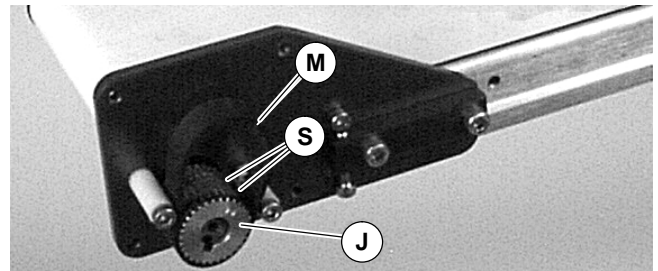

Figure 6
7. Install driven pulley (J of Figure 6). Tighten two (2) set screws to 33 in-lb (3.7 Nm).
8. Place timing belt (M of Figure 6) over driven pulley (J) and between belt flanges (S).